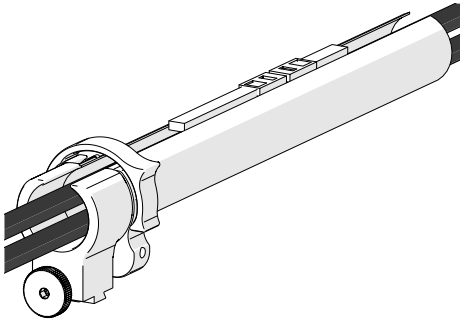

Fig. 62 - Zip opposite end
3. Once the cable is placed the entire length of the tube, bring the zipper from the tube's opposite end, meeting at any point in the middle (Fig. 62).